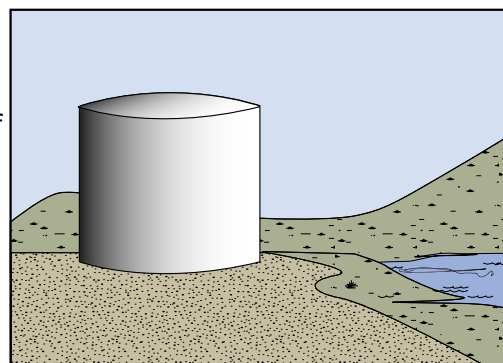

Figure LST-2. Rigid tank-of-opportunity used for intermediate or final storage of recovered fluids.
**Rigid Tanks** – Rigid tanks are constructed of steel, aluminum, or plastic and may include: tanks-of-opportunity located near the response site or tanks delivered to the transfer site. Rigid tanks are the preferred means of storage, especially if the storage is for a long period (Figure LST-2). Rigid tanks also include open-top lined dumpsters or ore bins.